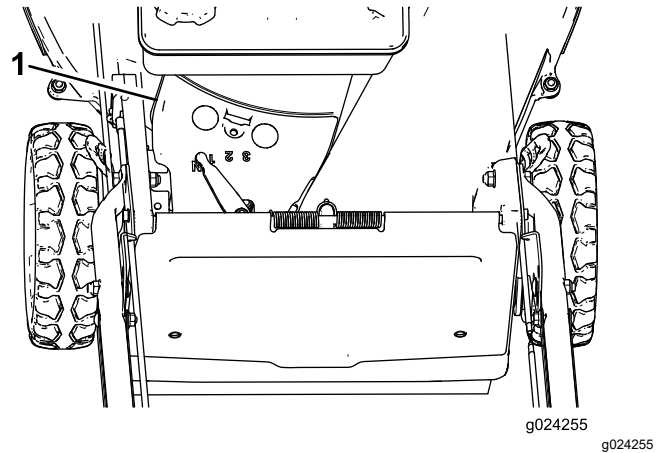

Figure 34
3. Remove the belt cover (Figure 34).